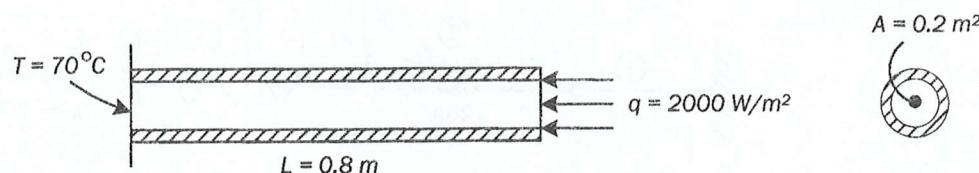

Figure Q3[a]
- Q3. [a]** The fin shown in Figure Q3[a] is insulated on the perimeter. The left end has a constant temperature of 70°C . A positive heat flux of $q = 2000 \text{ W/m}^2$ acts on the right end. Let thermal conductivity, $k_x = 20 \text{ W/(m. }^{\circ}\text{C)}$ and cross-sectional area $A = 0.2 \text{ m}^2$. Determine the temperatures at $L/2$ and L from the left end.